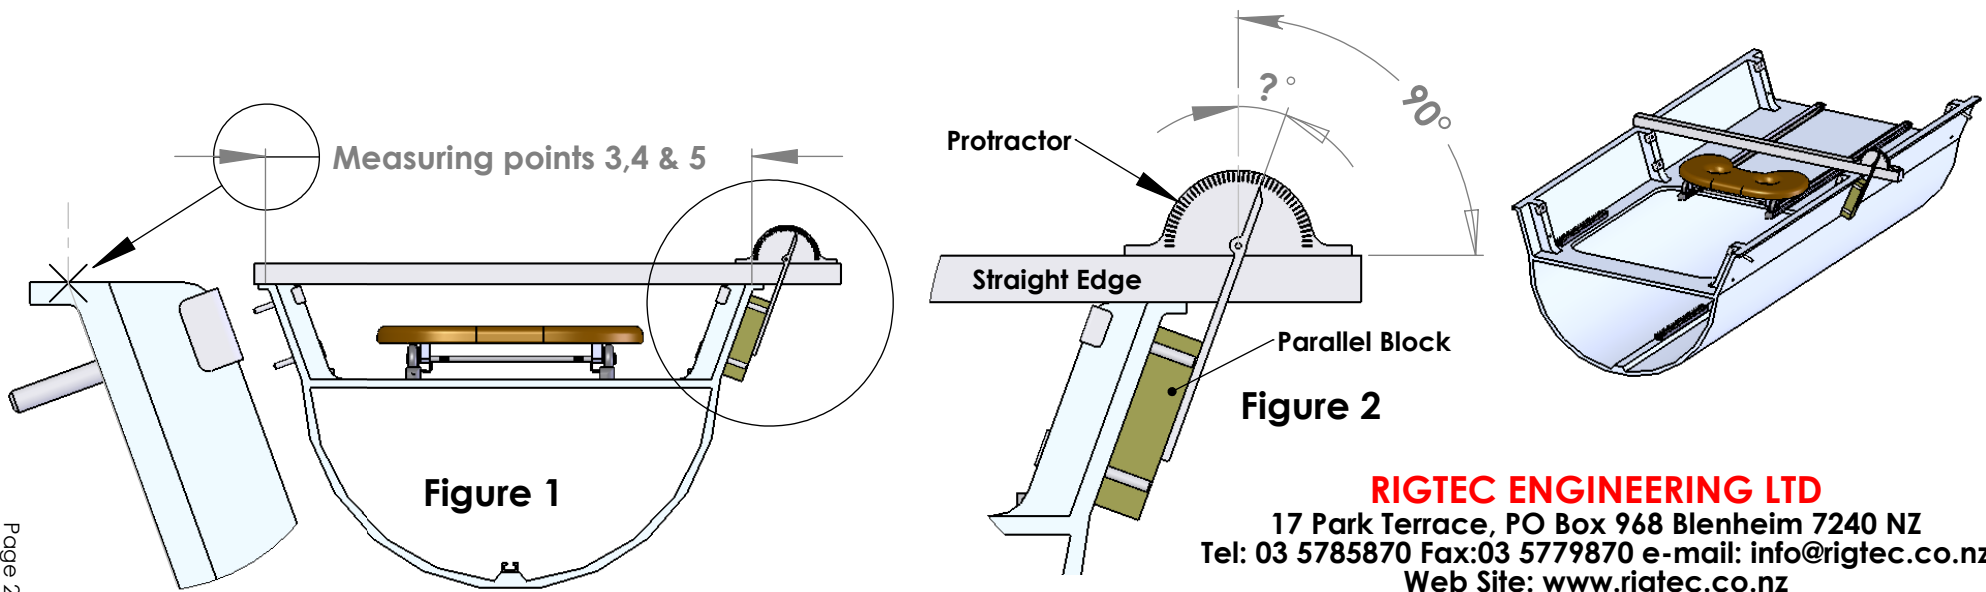

Figure 2
- **Ref. Points 7 & 8** Use the Straightedge and Protractor to measure the Stroke Side #7 and Bow Side #8 Gunwale angles. We require this to be carried out on the Mainstay Knee only. If the lip on the top of the gunwale interferes with the Protractor, use a parallel block to step the Protractor off the hull. Ref. Figure 2.